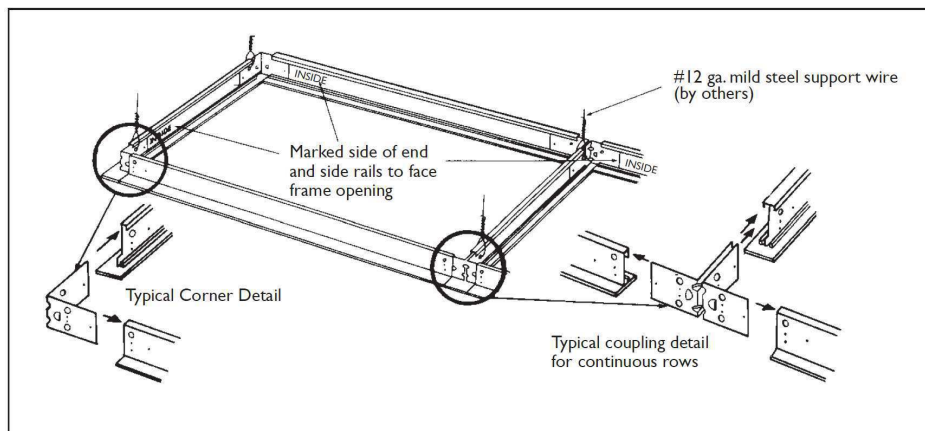

Figure 2
2. Assemble the flange kit by sliding the (snap-lock) corner angles into side and end rails as shown in Figure 2.
3. Place assembled frame into ceiling opening and wire support (at four corners as shown in Figure 2) from main floor/ceiling structure.